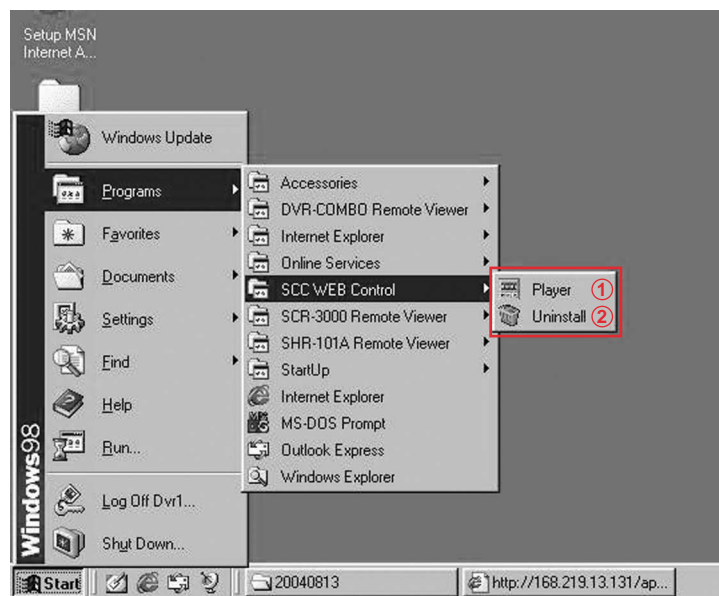

FIG.3
Click Start Program → SSC WEB Control → Player. (Fig. 3-①)
Click Start → Program → SSC WEB Control → Uninstall. (Fig. 3-②)